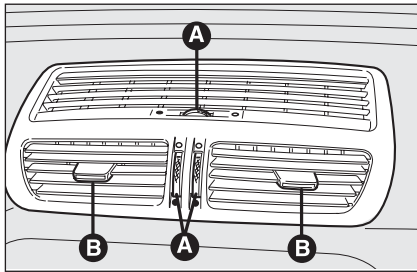

fig. 47
**CENTRAL VENTS fig. 47****A** = Air flow adjusting control